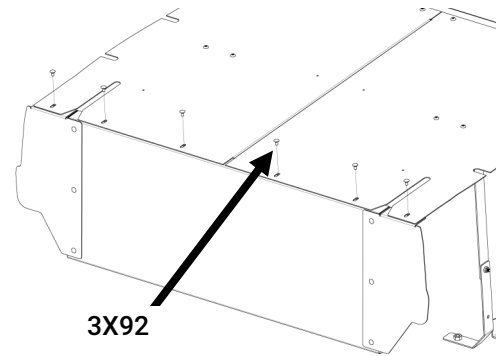

Figure 9
- E. Align the (6) holes and loosely secure using (6) [3X92] carriage bolts and (6) [3X16Z] whiz nuts (Fig 9).
- H. Using (4) [3X72] screws, (2) per bracket, attach the (2) cover support brackets [3CSC6718-09] to the OEM rear